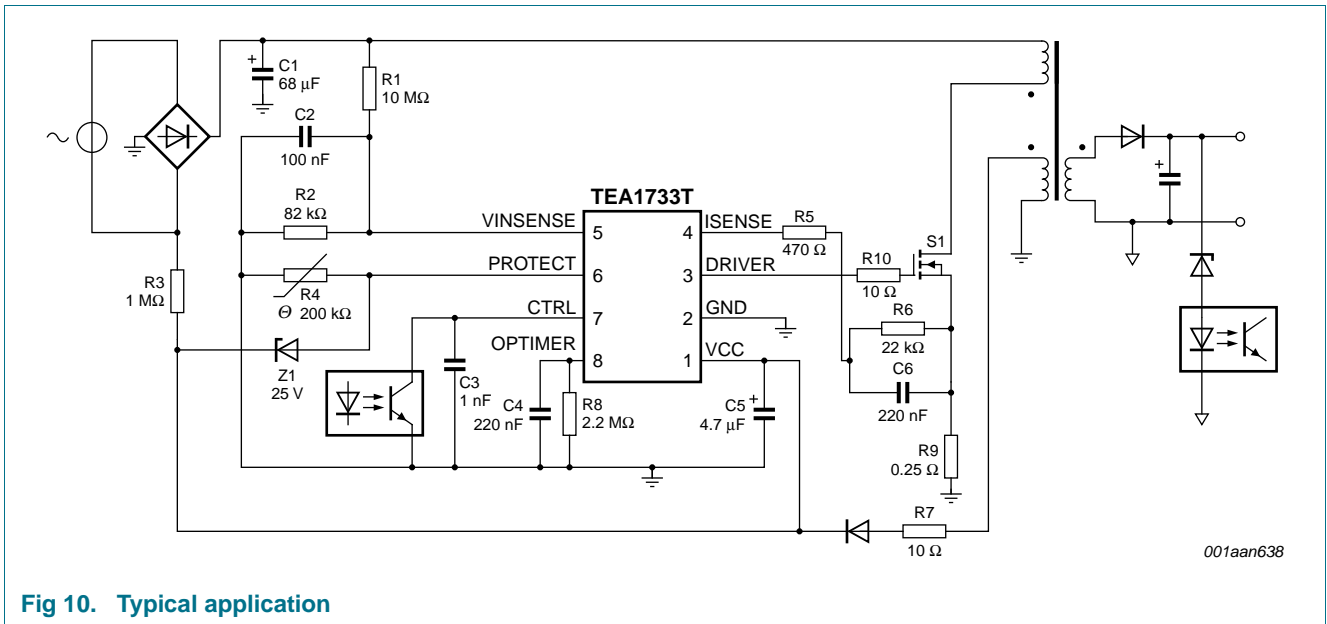

Fig 10. Typical application
A power supply with the TEA1733T is a flyback converter operating in Continuous conduction mode (See Figure 10).
In the example shown in Figure 10, the PROTECT pin is used for OVP and OTP. The OVP level is set by diode Z1 to $V_{CC} = 25.8\text{ V}$. The OTP level is set by Negative Temperature Coefficient (NTC) resistor R4. The VINSENSE pin is used for mains voltage detection and resistors R1 and R2 set the start voltage to about 80 V (AC). The overpower protection time is defined by capacitor C4 is set at 60 ms.